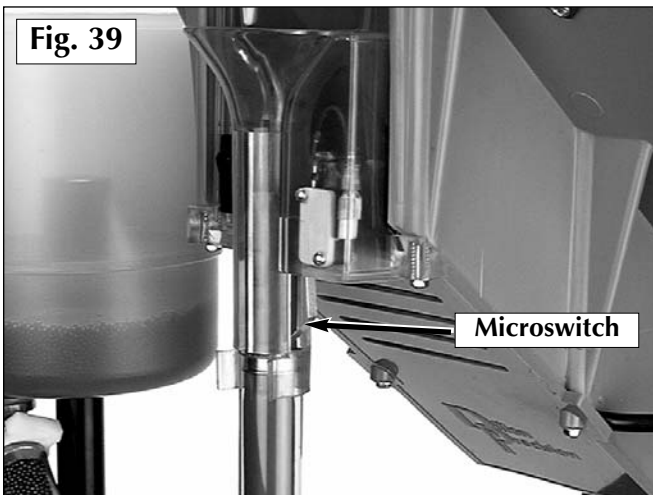

Fig. 39
4. The casefeeder will run until the casefeed tube (#16705) has filled, then shuts off automatically when a hull trips the microswitch. **Fig. 39** Insure